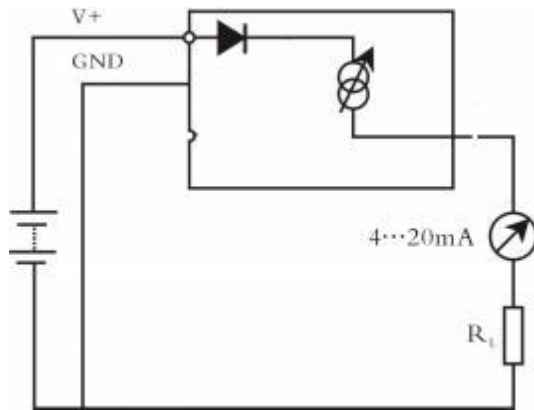

Figure 2 Output diagram
2、 The external connection diagram is shown in Figure 2